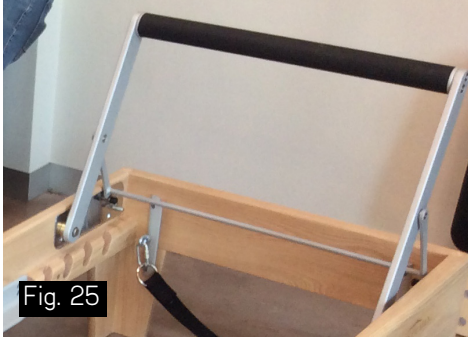

Fig. 25
1. Place the foot bar in Position 3 (Fig. 25).